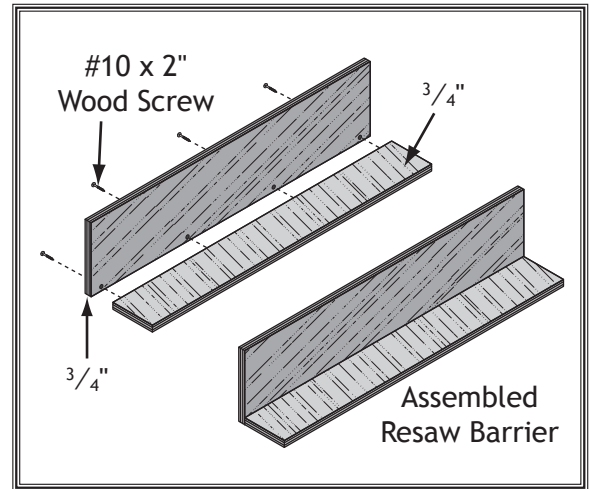

Figure 68. Clamping the resawing barrier.
3. Glue the end of the 3" board, then clamp the boards at a 90° angle with the larger board in the vertical position, as shown in **Figure 68**, fasten together with the wood screws.